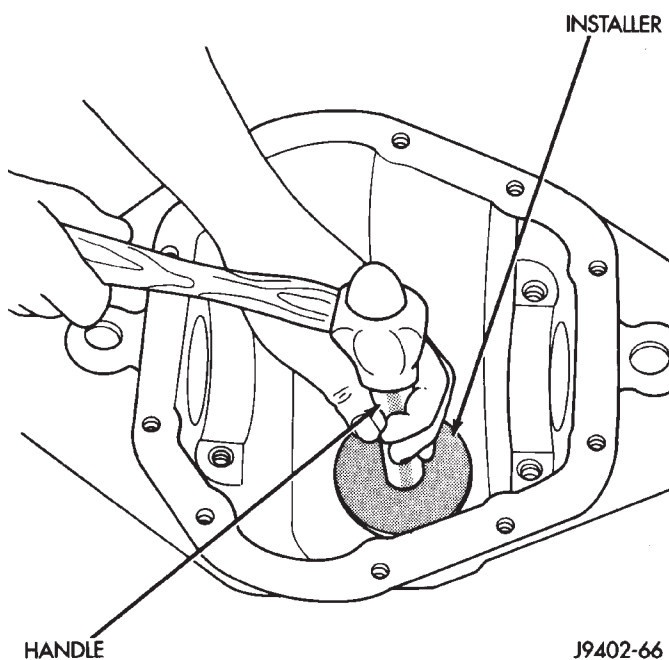

Fig. 46 Pinion Rear Bearing Cup Installation
(1) Apply Mopar® Door Ease, or equivalent, stick lubricant to outside surface of bearing cup.
(2) Install the pinion rear bearing cup with Installer D-146 and Driver Handle C-4171 (Fig. 46). Ensure cup is correctly seated.